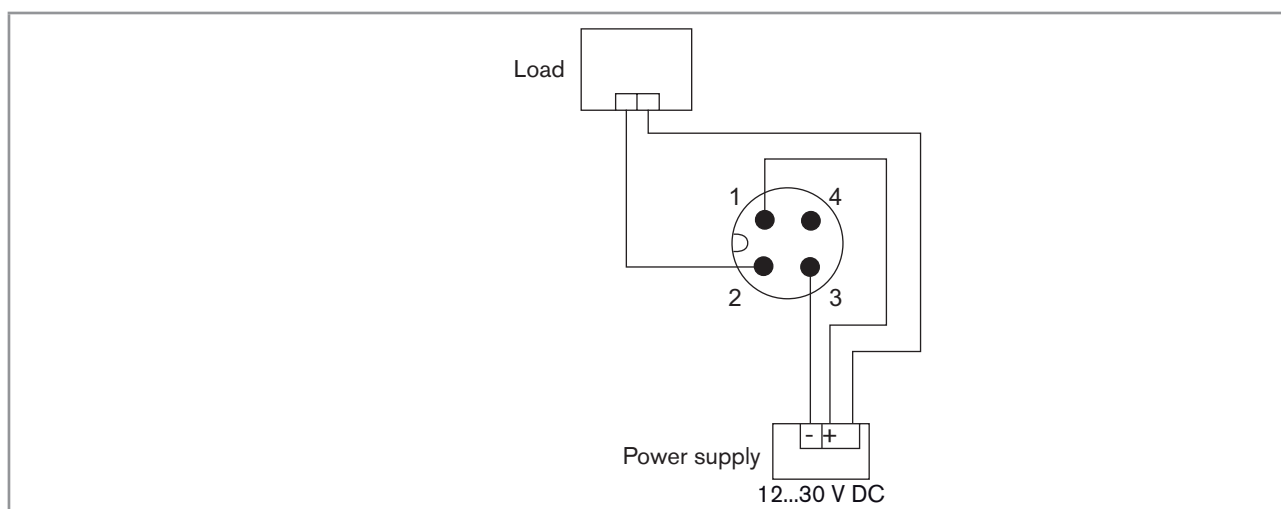
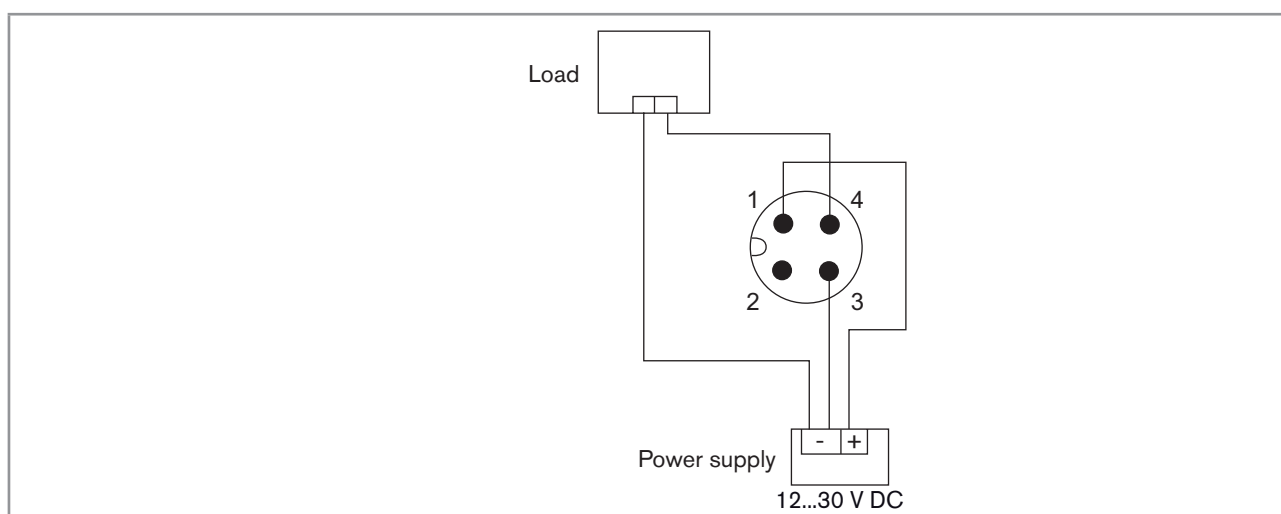

Fig. 8: Device with 4-pin M12 male connector – NPN connection of the transistor output
Fig. 9: Device with 4-pin M12 male connector – PNP connection of the transistor output
- Connect the transistor output. The transistor output can be connected in the following modes: NPN or PNP. Refer to Fig. 8 or Fig. 9.